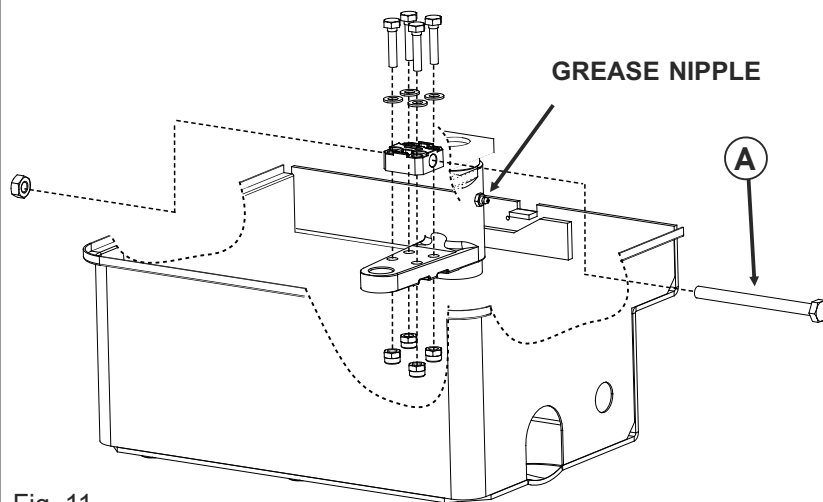
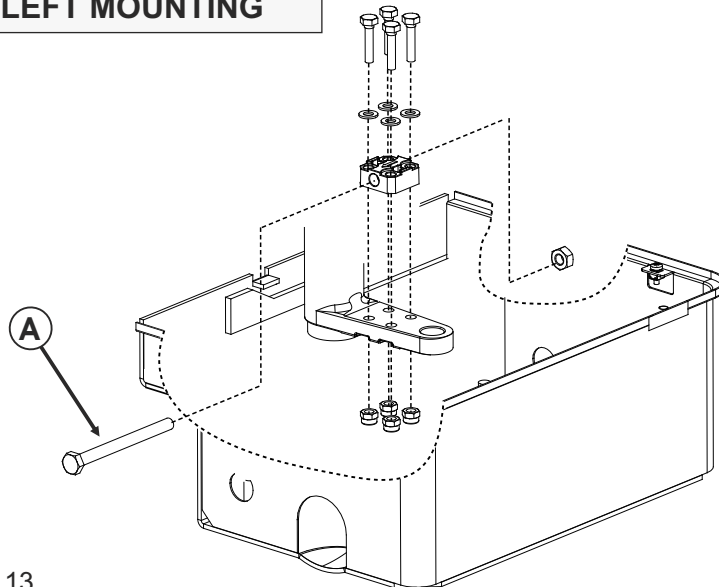

Fig. 11
Fig. 13
3.1. Insert the limit switch support on the rod support unit and fix it with the screws (Fig. 11 or Fig.13)
3.2. Insert the «A» screw(Fig. 11 or Fig. 13) as shown in the drawing, paying attention to the direction of insertion given by the arrow on the support (Fig. 12a or Fig. 14a)